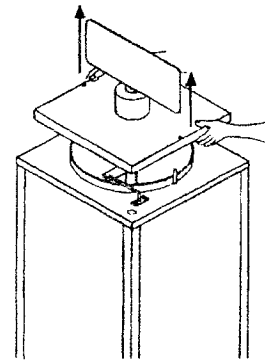

Fig. 5
E. Remove the cover (See Fig 5).